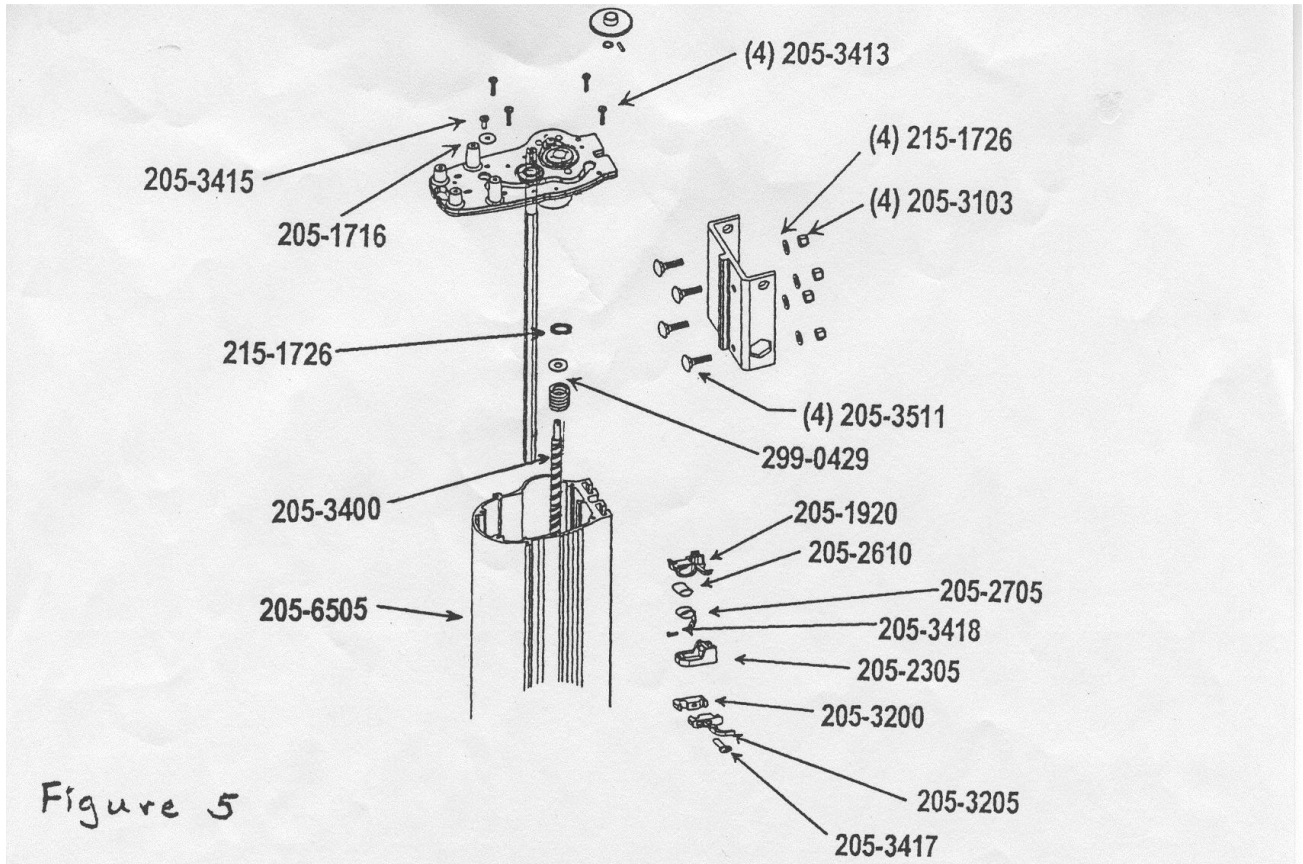
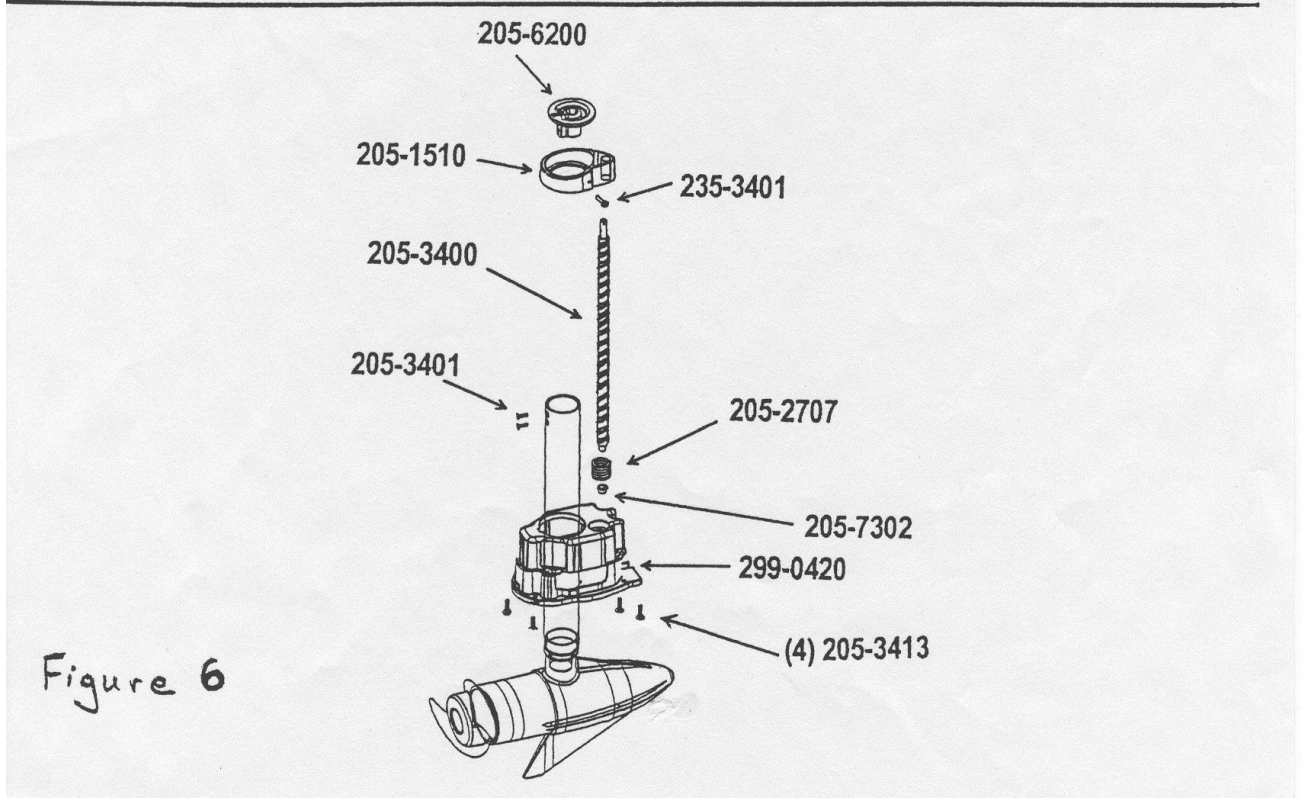

Figure 5
Figure 6
- b. Remove the lift gear from the lift screw shaft. (See figure 5, page 9.)
- e. Using a 5/16" nut driver, remove the 4 screws (p/n 2053413) that hold the top plate in place on the housing (p/n 2056505). (See figure 5, page 9.)
- D.** If it was determined in **Case II Step 3B-2** that the lift yoke (p/n 2051510) (see figure 6, page 9) is broken or stripped further disassembly is required. **NOTE:** the Vantage motor uses a retractable tape spring to hold/control the two-conductor wire that goes to the motor lower unit. The wire control system consists of two parts, the wire clamp assembly (p/n 2053200, 2053205, & 2053417) and the tape spring assembly (p/n 2051900, 2052305, 2052610, 2052705, & 2053418). (See figure 5, page 9 and figure 8, page 11) Both of these items are slid onto the raised "rib" located on the inside surface of the housing (p/n 2056505). The lower wire clamp is held in place by means of a small plastic "finger" that catches in a 1/4" diameter hole in the Vantage motor housing (p/n 2056505). (The hole is located on the transom bracket side of the housing 9 inches down from the top.) Use a 1/4" diameter pin punch in this hole. From the outside, push in the end of the finger to release the lower wire clamp and slide it up and lift the tape spring assembly and wire clamp off of the rib. Next, while supporting the Vantage motor lower unit, use the 5/16" nut driver to remove the four screws (p/n 2053414) that hold the lower support cage (p/n 2990420) assembly into the housing (p/n 2056505). After removing these four screws the entire motor lower unit and shaft, lift screw (p/n N 2053400), lift screw yoke (p/n 2051510), and yoke bearing race (p/n 2056200) can be lowered out the bottom of the Vantage housing. (See figures 5 & 6, page 9 and figure 8, page 11.) Remove the lower wire clamp, wire tie, and tape spring assembly from the motor wire leads. Then remove the two screws (p/n 2053401) that hold the yoke bearing to the motor shaft. Remove the coil spring (p/n 2990429) and washer from the top end of the lift screw shaft. Remove the broken/stripped lift screw yoke from the lift screw shaft. If necessary, turn the lift screw to unscrew the old yoke and bearing race assembly. Slide the old parts up and off the motor wire leads. Install the required new parts and reassemble the Vantage motor in reverse order of disassembly. Take special care not to twist the motor wire leads and to reinstall the wire tie, lower wire clamp, and the tape spring in the same manner and position they were in prior to disassembly.